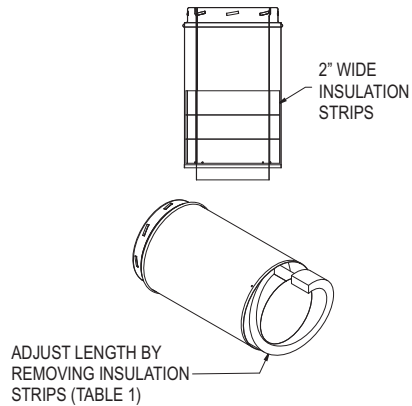

Figure 33
2. Remove insulation strips from male end of pipe, as needed, depending on the length required for your installation (Fig.33). Be very